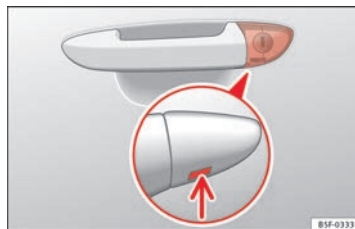

Fig. 55 Driver door lever: hidden lock cylinder.
- Insert the key shaft into the opening in the cover on the driver door handle from below ⇒ Fig. 55 (arrow) then remove the cover upwards.